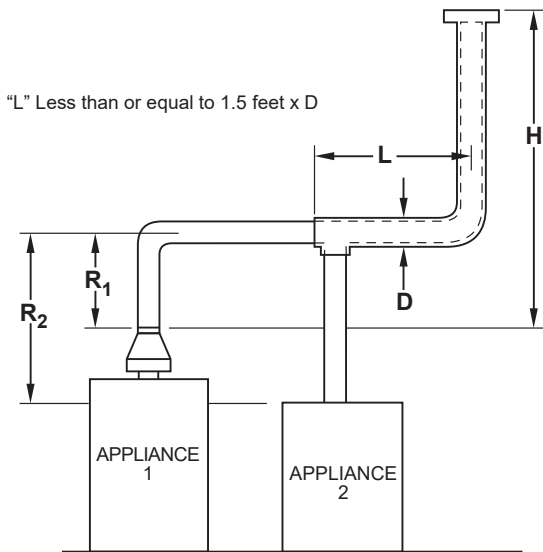

FIGURE 7
5) If vent connectors are combined prior to entering the common vent, the maximum common vent capacity listed in the common venting tables must be reduced by 10%, the equivalent of 1 (one) 90° elbow (0.90 x maximum common vent capacity). See Figure 7. The horizontal length of the common vent connector manifold (L) should not exceed 1-1/2 feet (18 inches) for each inch of common vent connector manifold diameter.